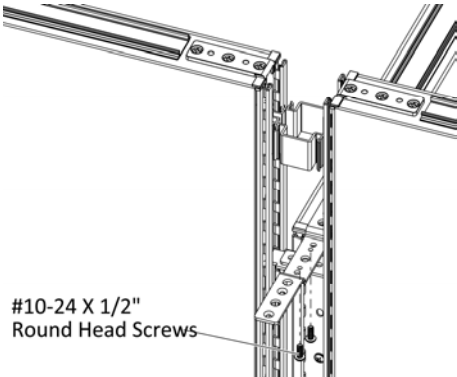

Figure 7
- 15.** Securely fasten the connectors with two #10-24 X 1/2" Round Head Screws, (Figure 7).